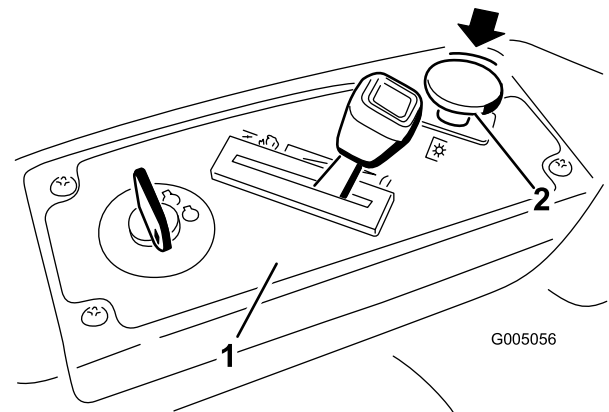

Figure 12
Push the blade control switch to Off to disengage the blades (Figure 12).
1. Disengage the blades by moving the blade control switch to Off (Figure 12).